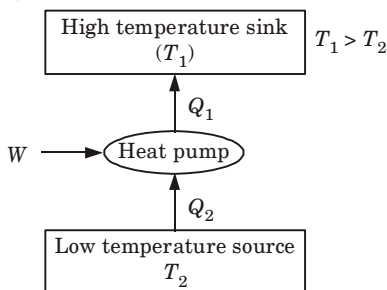

Fig. 2.2.1. A schematic diagram of a heat pump.
2. This transfer of heat from a low temperature body to a high temperature one is essentially a non-spontaneous process. And that calls for the help of an external work which is supplied to the heat pump (Fig. 2.2.1).